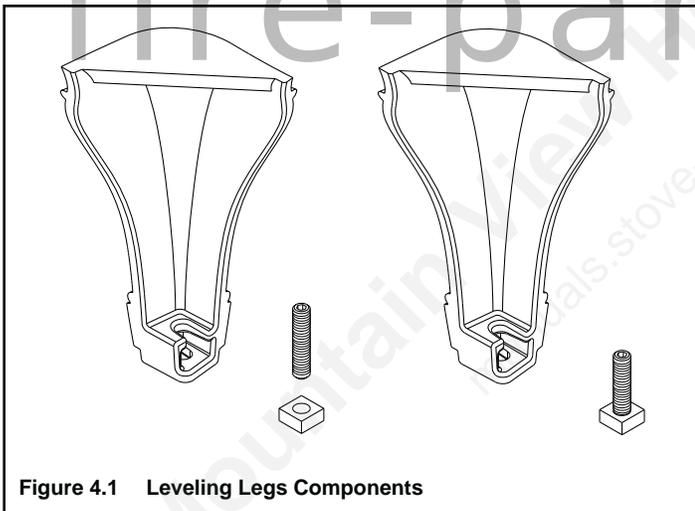

Figure 4.1 Leveling Legs Components
- Thread allen bolts through nuts until flush. See Figure 4.1